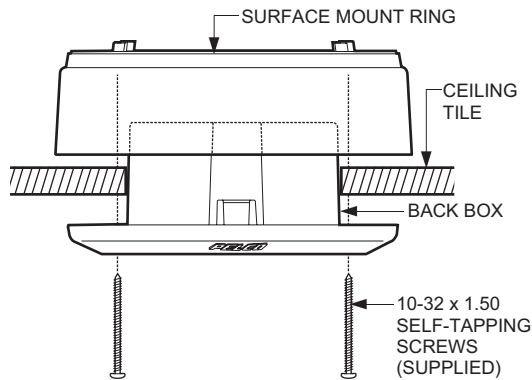

Figure 4. Ceiling Tile Installation
1. Remove the ceiling tile from the ceiling (refer to Figure 4).